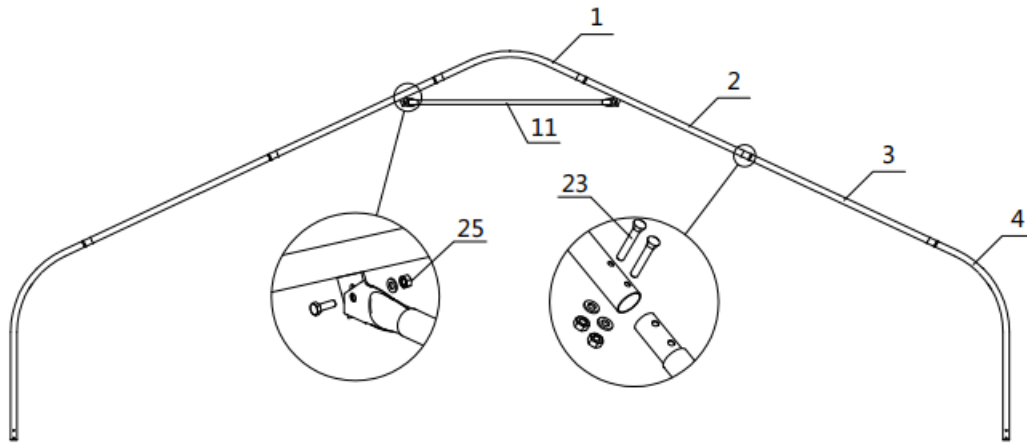

Figure 3
- Parts used to install (27) middle trusses in this step (refer to figure 3) :